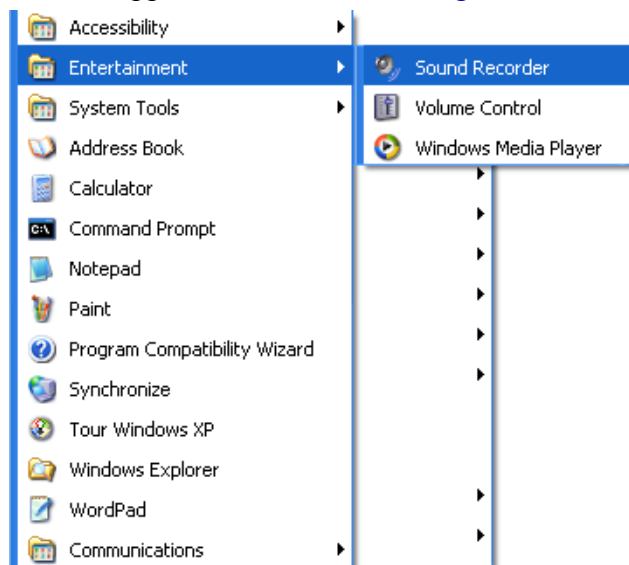

Figure G-15. Launch Sound Recorder application
2. Open the Sound Recorder application as shown in Figure G-15.